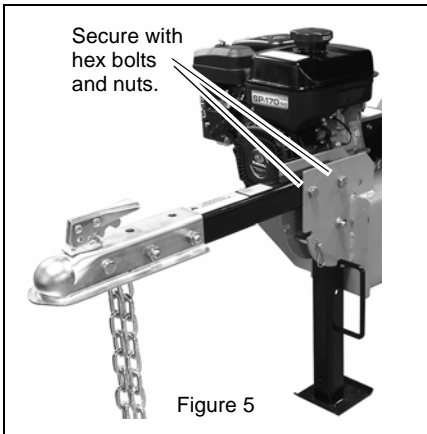

Figure 5
5. Insert hex bolts through tongue assembly and frame (see figure 5).